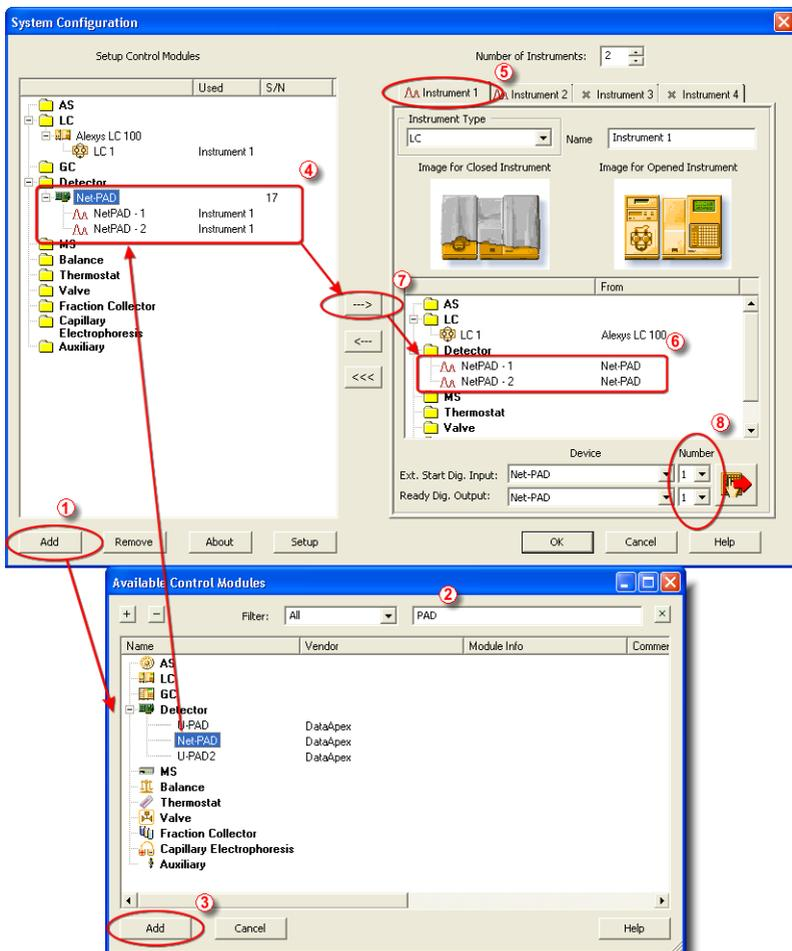

Fig. 8: System Configuration
- Press the *Add* button (1) (See Fig. 8 on pg. 12.) to invoke the *Available Control*
- You can specify the searching filter ② to simplify the finding of the driver.
- Select the **Net-PAD** and press the **Add** ③ button.